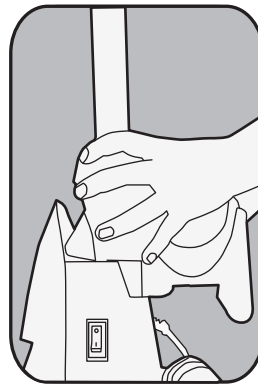

Fig. 1
1. After first removing the handle screw, slide the handle into the slots on top of the vacuum cleaner (Fig. 1).